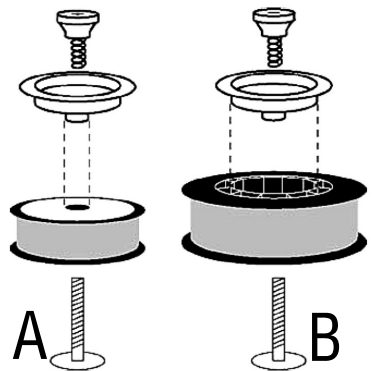

Fig. 5
- a. Four Inch Wire Spool - Install the drive brake hardware on the top of the spool of wire as shown in Fig. 5-A.
- b. Eight Inch Wire Spool - Install the spindle adapter and drive brake hardware as shown in Fig. 5-B.